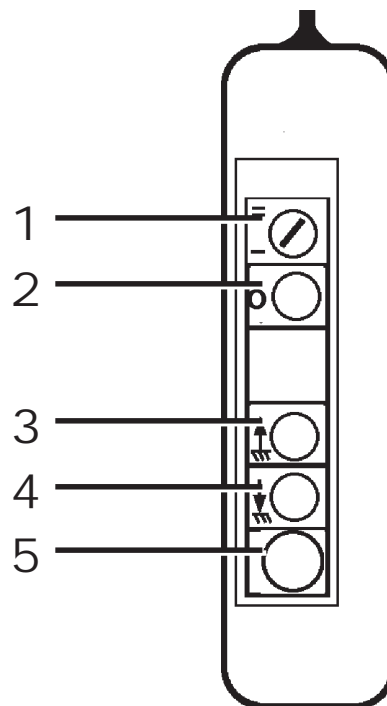

Fig.9-06 Fail safe brake remote control
4. Put the switch (fig. 9-06, 1) in position 'I' and press the button 'UP' (fig. 9-06, 3) to send the machine to a height of 5 m (16 Ft).
5. Put the switch (fig. 9-06, 1) in position 'II'. (drop test).
6. Press the drop test button (fig. 9-06, 2). The brakes are now released and the platform starts descending too fast. After approximately 2 - 3 m (1.6 - 3.2 Ft) the machine should stop.
If the fail safe brake does not function within 2-3 m (6.5 - 9.8Ft), immediately release the drop test button (fig. 9-06, 2). Please contact the service organisation.
The remote control also contains an emergency stop button (fig. 9-06, 5).
1. Put the switch (fig.9-06, 1) in position 'I'. Press the button 'UP' on the remote control to raise the transport platform with 1 meter (3.2 Ft). Then lower the platform to the ideal working height for resetting the fail safe brake.